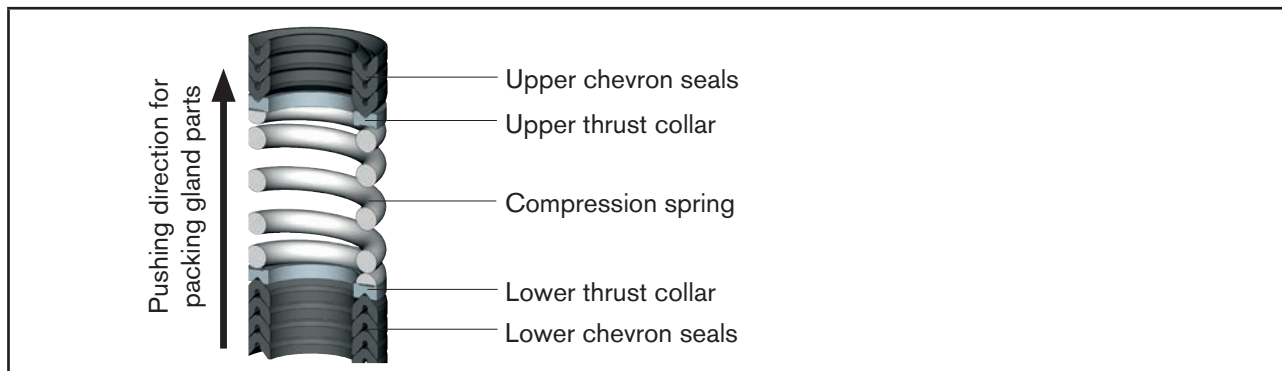

Figure 5: Construction of the packing gland
- Insert the parts of the new packing gland individually in the correct sequence (see "Figure 5").